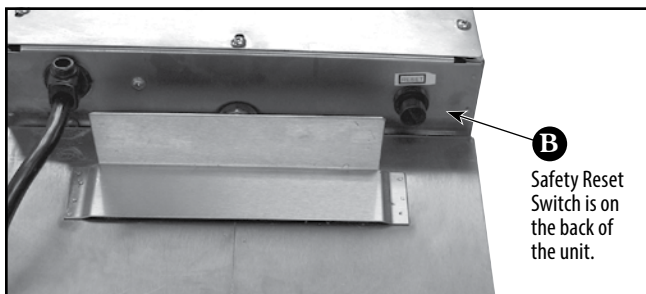

Figure 2. Safety Reset Switch for EFS-16 & EFT-32
- B SAFETY RESET SWITCH & COVER** (Figure 2) Remove cover to access the reset switch. If the oil reaches a temperature of 430°F (221°C) this switch cuts power to the unit. (Switch is on the back side of EFS-16, EFT-32) (See "Safety Reset Switch" on page 6).
The units are equipped with a switch that cuts off power if the oil temperature reaches 430°F (221°C). This switch has a manual reset. The reset switch is located on the back of the unit (Figure 2).